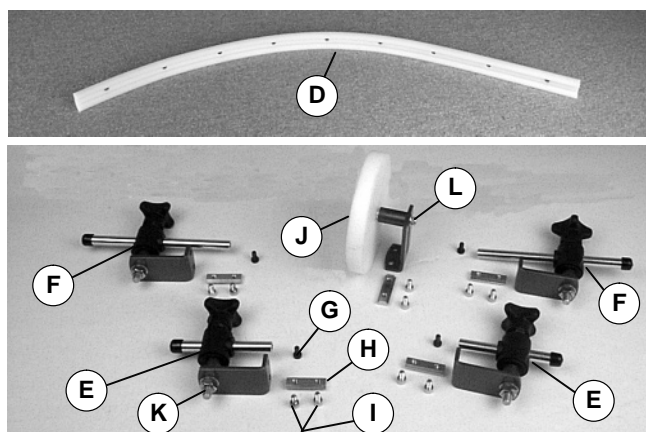
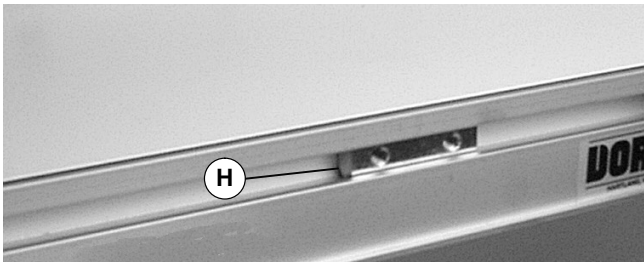
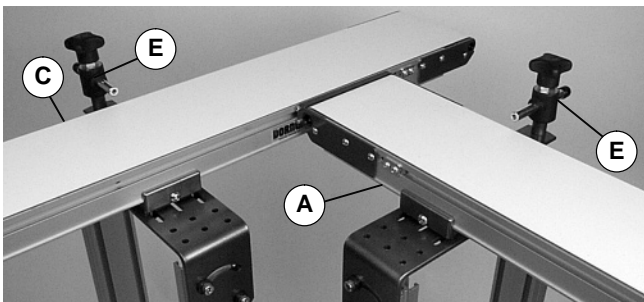

Figure 1
Figure 3
Figure 4
1. Parts as shipped (Figure 1)
3. Install T-bars (H of Figure 3) in both infeed conveyor (A) and outfeed conveyor (C) T-slots. See Figure 4 for attaching guide mounts.
4. Loosely attach guide mounts with 4-1/2" (114 mm) long shafts (E of Figure 4) to T-bars (H of Figure 1) with screws (I).
- Tighten screws (I of Figure 1) to 73 in-lb (8 Nm)
- Tighten guide mount nuts (K of Figure 1) to 146 in-lb (16 Nm)